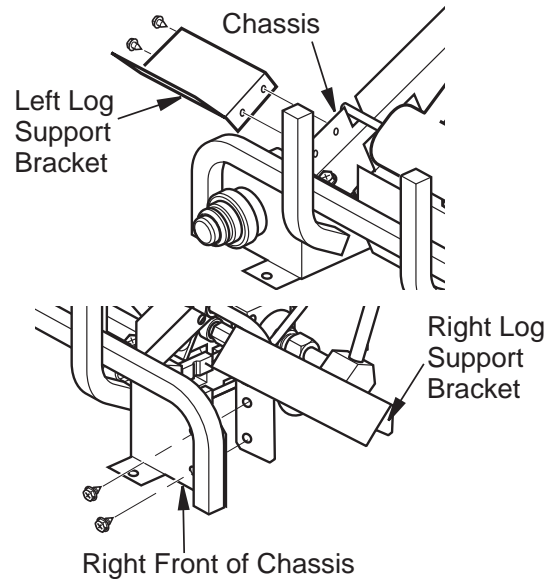

Figure 18 - Installing Log Support Brackets
1. Install left bracket to left side of chassis using 2 screws provided (see **Figure 18**).
2. Install right bracket to right front of chassis using 2 screws provided (see **Figure 18**). This bracket will also be used as remote control bracket if remote is installed.